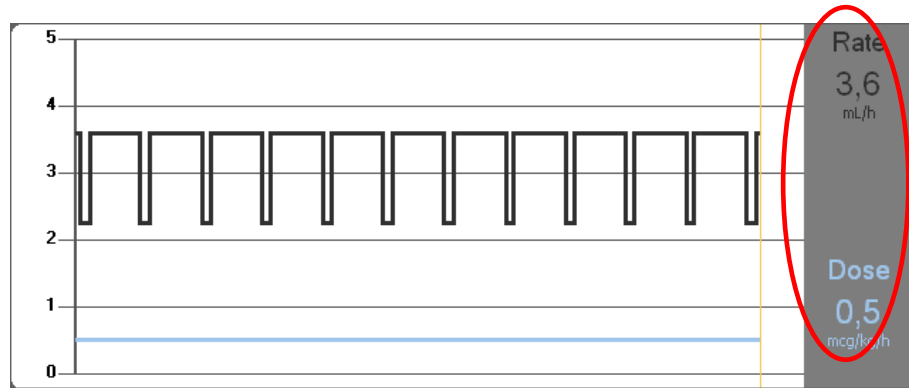

Fig 25
- the volume rate and the dose rate of the infused drug (Fig 25);
- if the pump is set to “Pharmacokinetic” mode, three lines are displayed on the chart, corresponding to: 1) the target value; 2) the plasmatic concentration; 3) the “effect site” concentration. The displays on the right show the three corresponding values (Fig 25);